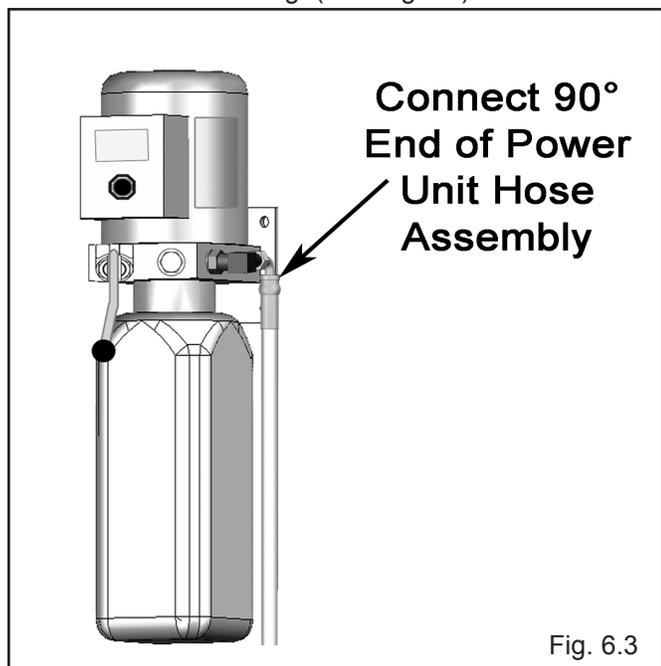

Fig. 6.3
6. Connect the other ends of the short Hose Assemblies to the Tee Fitting. Route one end of the long Hydraulic Hose Assembly through the hose retainer tubes and connect to the remaining end of the Tee Fitting. (See Fig 6.3)
7. Connect the other end of the long Hose Assembly to the 90° Power Unit Fitting. (See Fig 6.3)